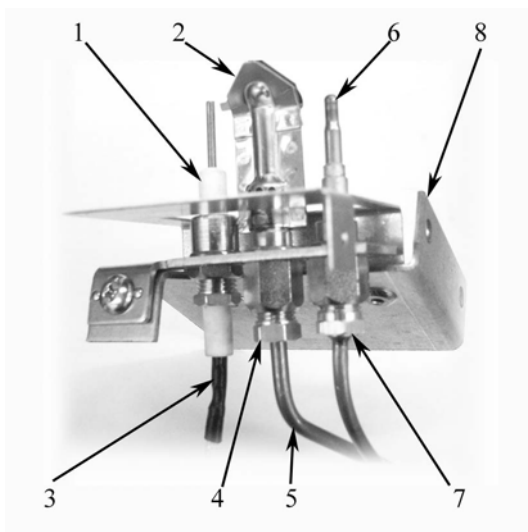

Fig. 7
- Unscrew the thermocouple union (item 7 in Fig. 7) and slid off pilot flame assembly;
- Unscrew the nut of the pilot flame gas pipe (item 4 in Fig. 7);